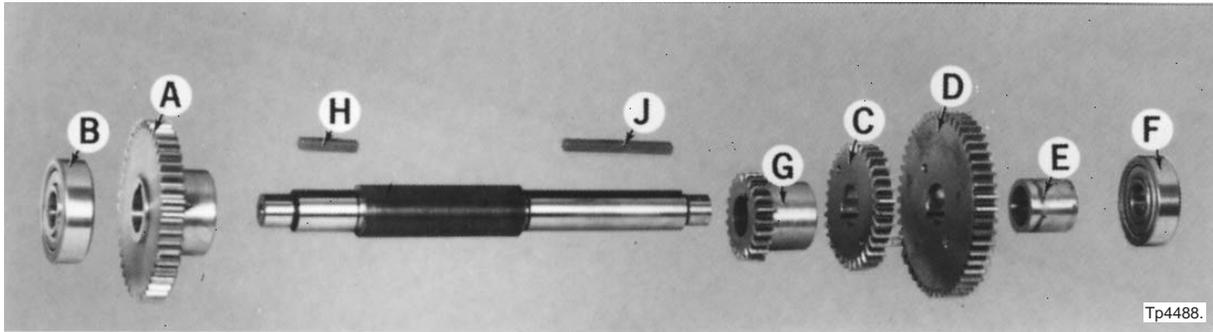

Figure 4.32 - Intermediate Shaft Assembly
Gears "C" and "D", Figure 4.32, are pinned together.
- a) Press gear "A", Figure 4.32, and bearing "B" off the shaft.
Gears “C” and “D”, Figure 4.32, are pinned together.
- a) If removed, replace keys “H” and “J”, Figure 4.32 .